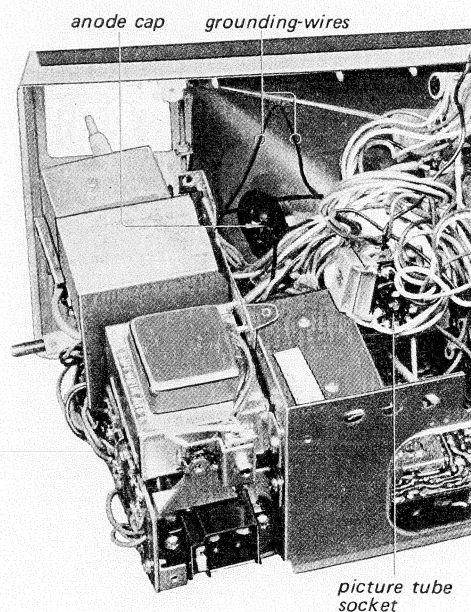

Fig. 2-15
6. Pull off the picture tube socket shown in Fig. 2-15.
7. Remove the anode cap shown in Fig. 2-15.
8. Unsolder the two grounding-wires shown in Fig. 2-15.